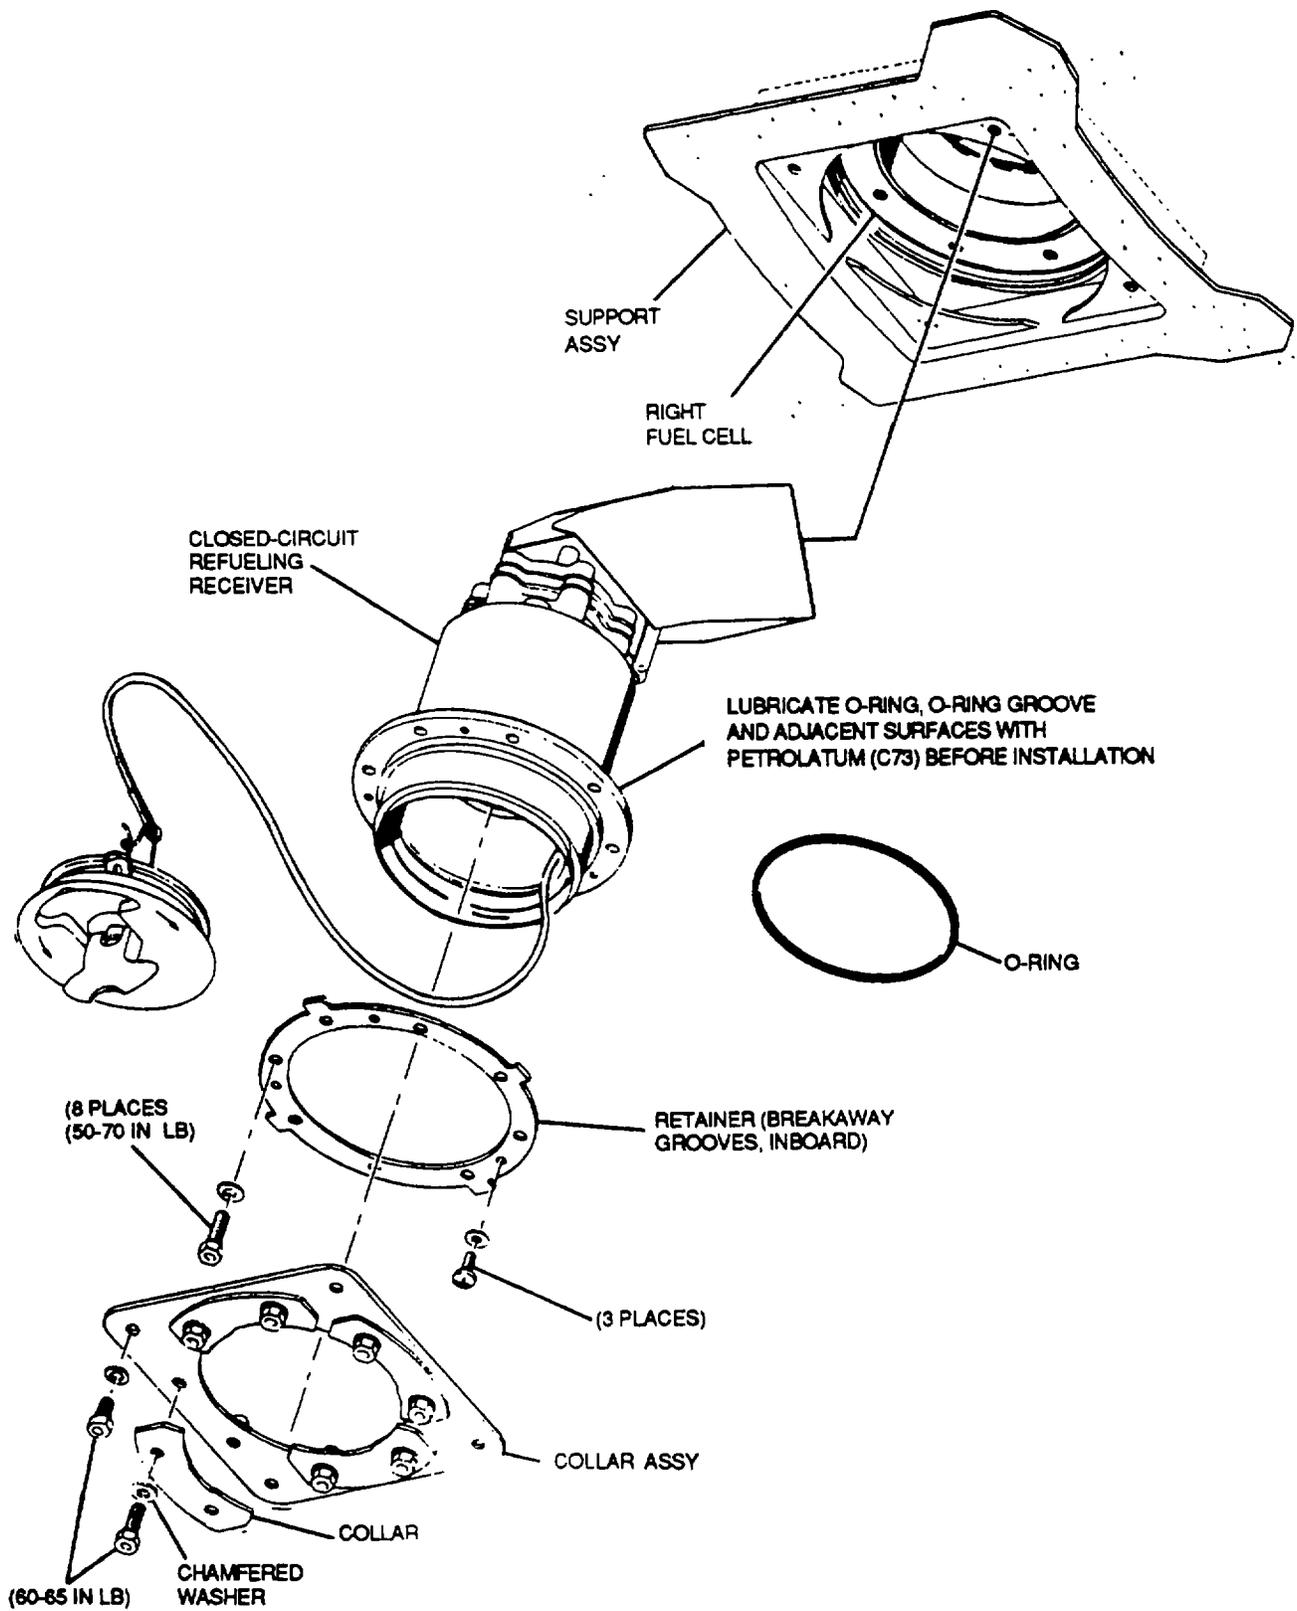

Figure 2-20. Closed-Circuit Fuel Receiver Installation
(1) Types. Any closed system of aircraft refueling depends on two basic pieces of equipment: a receiver that is mounted in the aircraft, and a nozzle. These two pieces of equipment are designed for each other, to mate or lock together before fuel can flow through them. The Army has two such equipment systems, the CCR system that is part of the Forward Area Refueling Equipment (FAIRE) system and the D-1 pressure system (also called the centerpoint system).
(2) Inspection. The CCR receiver as shown in figure 2-20 is inspected as follows: